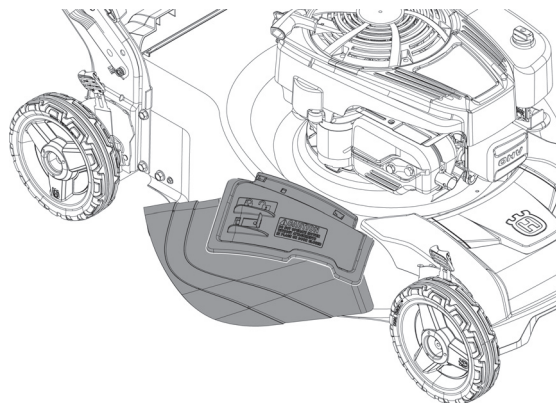

Figure 13
3. Mower is now ready for side discharging operation (Figure 13).